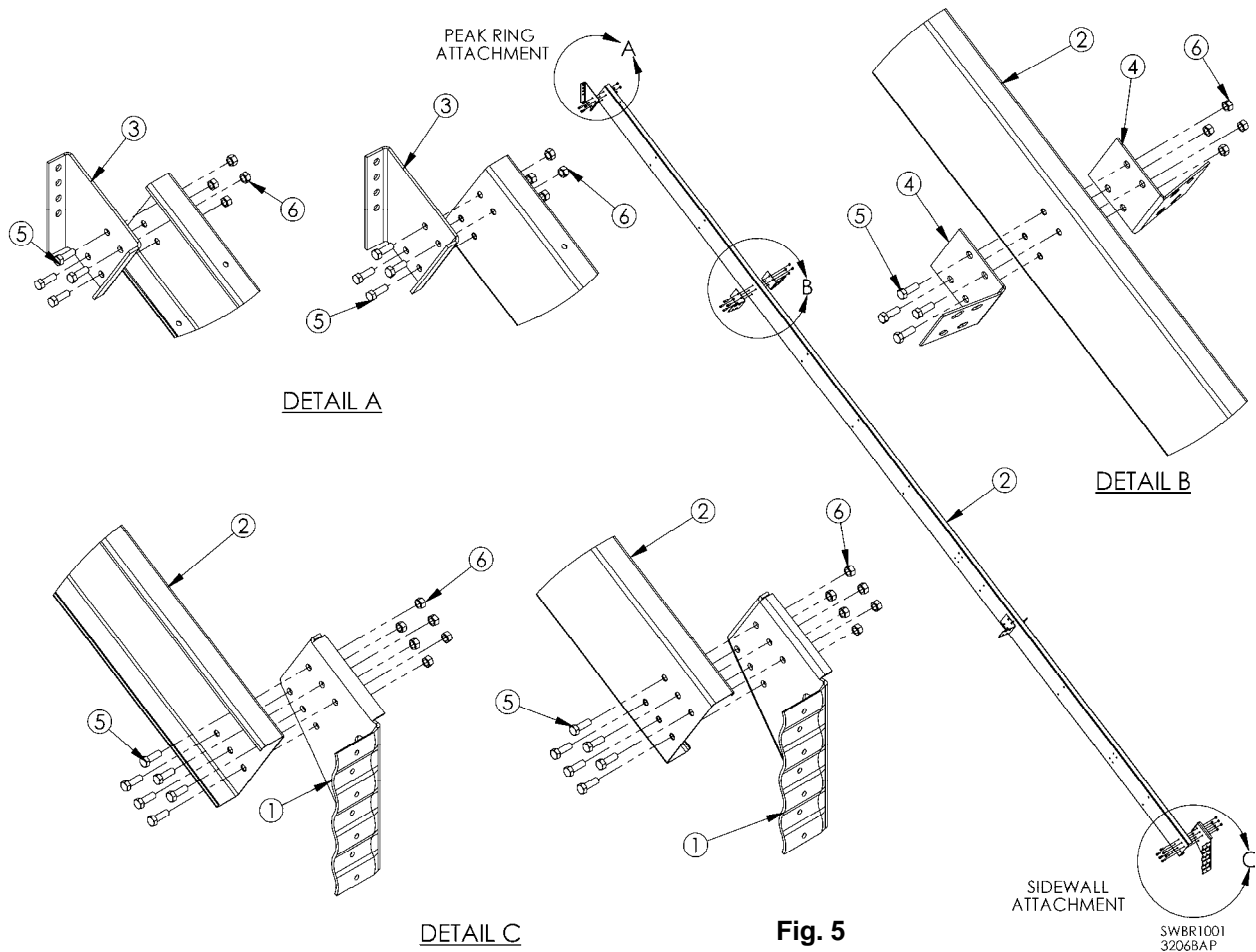
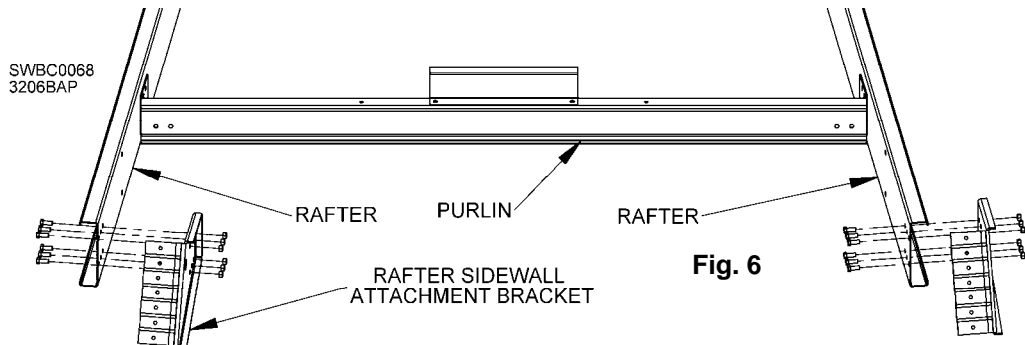

Fig. 5
Fig. 6
15,000 lb. roof rafters consist of one (1) C-shaped channel. See Fig 5. Item descriptions and part numbers are identical to those of 30,000 lb. roof rafter attachments shown on next page. Attach peak ring rafter brackets and sidewall rafter attachment brackets to rafter using 1/2 x 1-1/4" bolts and 1/2" flange nuts as shown in Details A and C of Fig. 5. Details A and C each show two orientations of C-shaped rafter. Assemble an equal number of rafters each way. This is done so that during pre-assembly of rafters, C channels will align back-to-back from each other to strengthen rafter substructure. See Fig. 6 to help understand assembly shown in Details A and C of Fig. 5.
Bolt purlin brackets to each side of rafter at specified locations using 1/2 x 1-1/4" bolts and 1/2" flange nuts as shown in Detail B of Fig. 5. Tighten all purlin brackets. Do not tighten peak ring or sidewall attachment brackets.